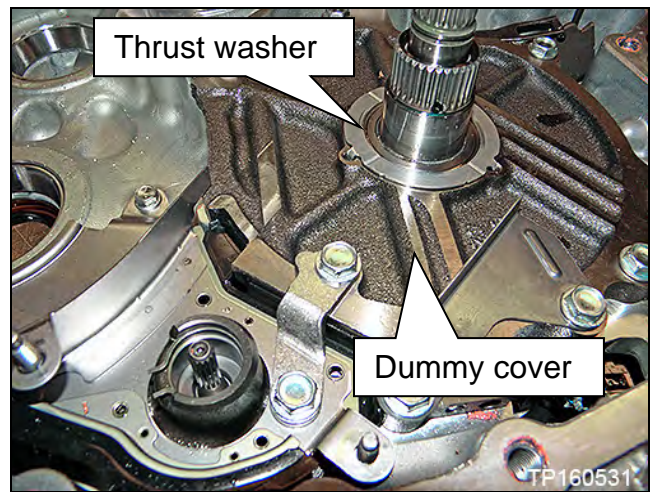

Figure 14B
- a. "Pump cover" (dummy cover) thrust washer (Figure 14B).